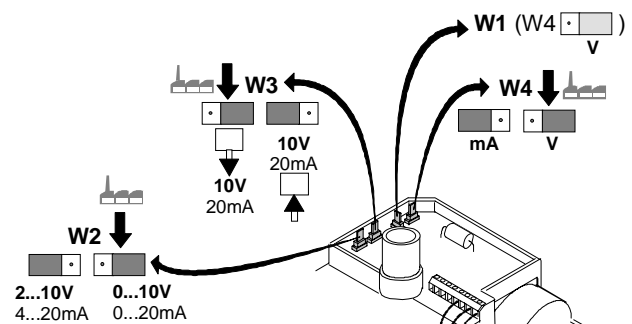

Fig. 8. Location of selector plugs W1, W2, W3 and W4.
Changing the W4 position to mA (see Fig. 8.) the ranges are 0(4) to 20 mA. Selector plugs W1, W2, W3 and W4 are positioned on the back side of the PCB protection sheet. See Fig. 8 for location of the selector plugs.